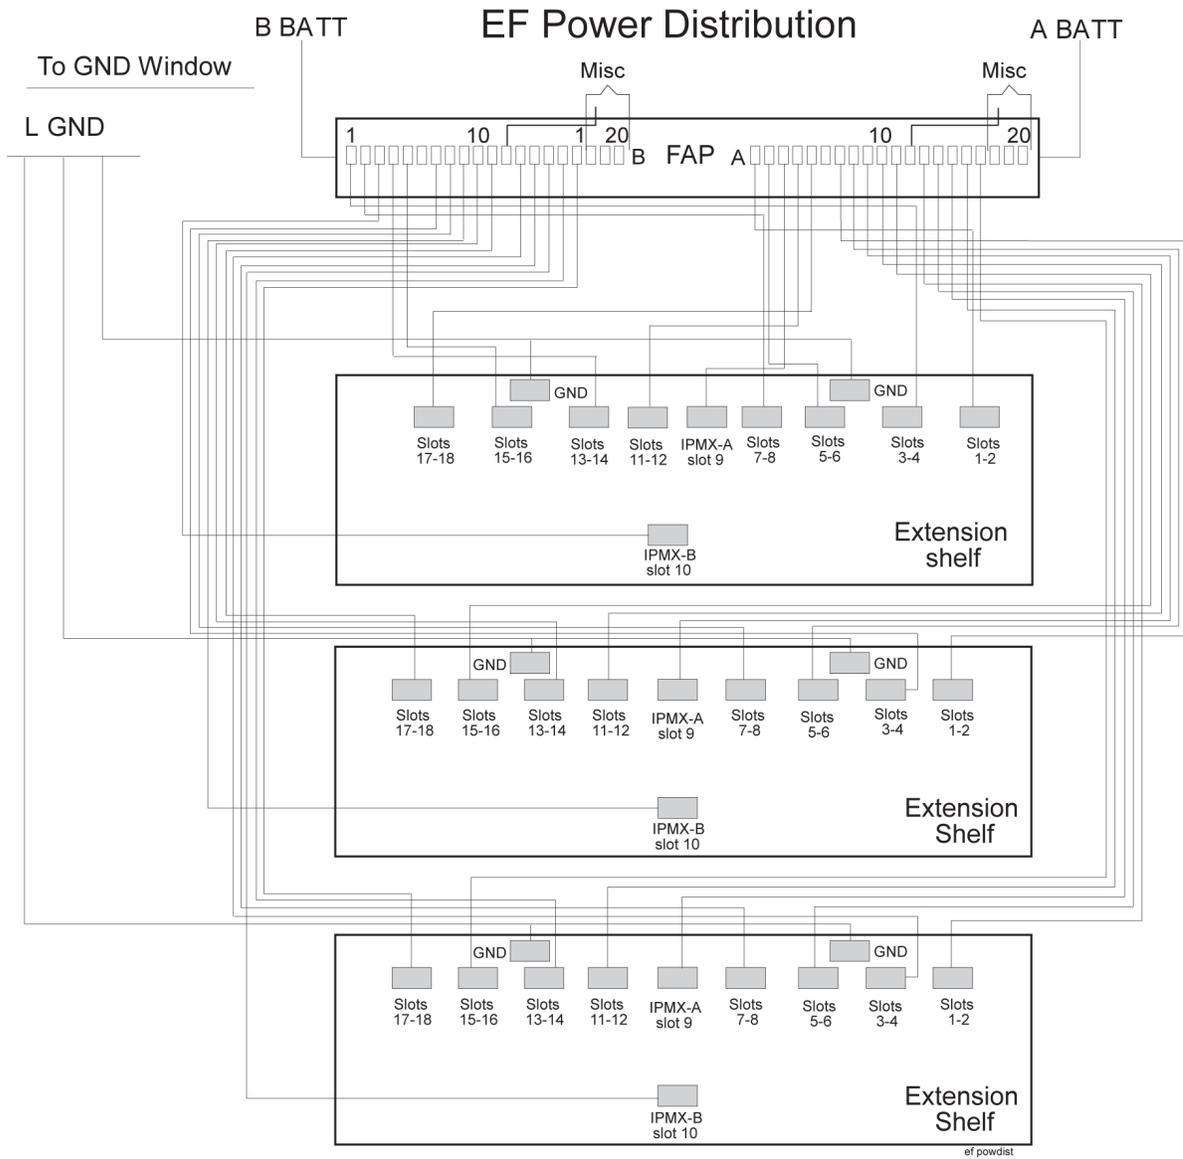

Figure 62: Extension Frame FAP (P/N 870-0243-08 and P/N 870-1606-xx)
- Extension frame, *Figure 62: Extension Frame FAP (P/N 870-0243-08 and P/N 870-1606-xx)*